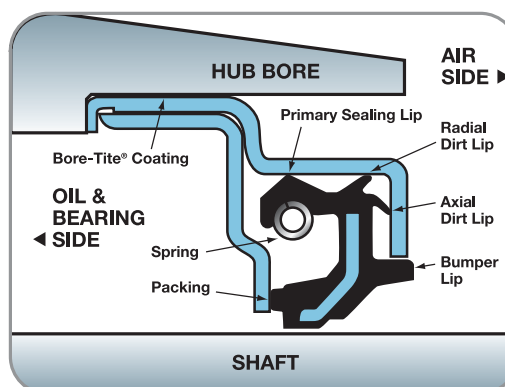

Figure 2
**SKF Scotseal® Longlife** is a unitized, one piece design consisting of a sealing element (packing) that is assembled between a metal outer and inner case. The Scotseal Longlife's packing consists of four sealing lips; a spring-loaded primary sealing lip that is factory pre-lubed, a radial and axial dirt lip, plus an outer bumper lip that acts as a preliminary dirt excluder. The Scotseal Longlife is pressfit into the hub bore using Scotseal Installation Tools. The Scotseal Longlife maintains a metal-to-metal contact between the seal O.D. and the hub bore surface as well as a metal-to-metal contact between the packing I.D. and the spindle. (See Figure 2).